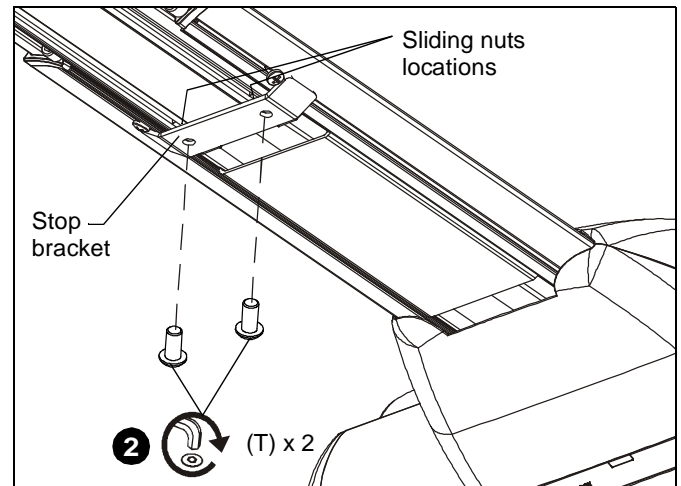

Figure 73
2. Install two 1/4-20 x 1/2" button head security screws (T) through holes in stop bracket and into holes in sliding nuts. (See Figure 73)